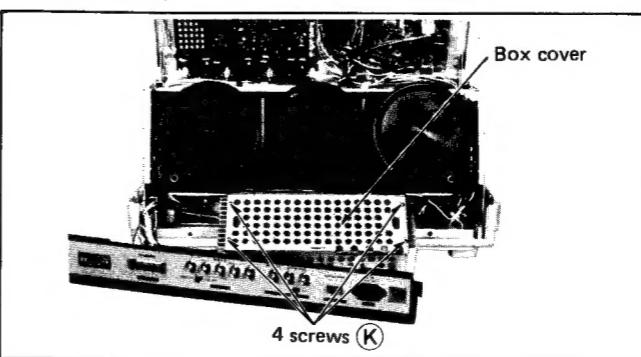

Fig. 11
- Remove 4 screws **(K)** in fig. 11, and lift the box cover.